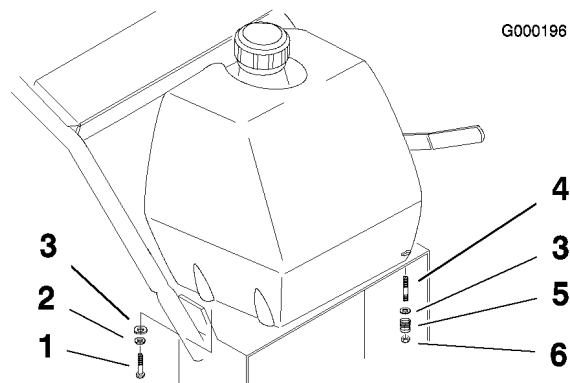

Figure 6
1. Align fuel tank with the top of the rear frame (Figure 6).
2. Secure the right side of the fuel tank to the rear frame with 2 bolts (5/16 x 7/8 inch), lock washers (5/16 inch) and washers (5/16 inch) (Figure 6).
3. Secure the left side of the fuel tank to the rear frame with 2 studs, washers (5/16 inch), springs and locknuts (5/16 inch) (Figure 6).